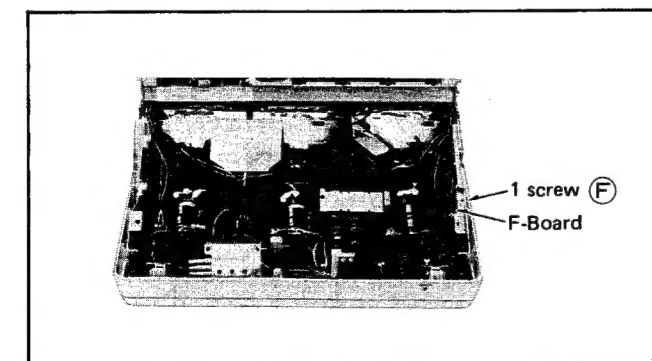

Fig. 7
- Remove a 1 screw (F) in fig. 7, then open the "F"-Board.